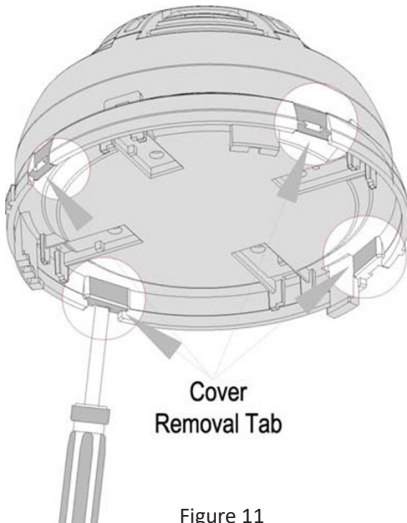

Figure 11
1. Remove the detector cover by snipping away the four sides tabs using a flat screwdriver and then pulling the cover from the base. (Figure 11)